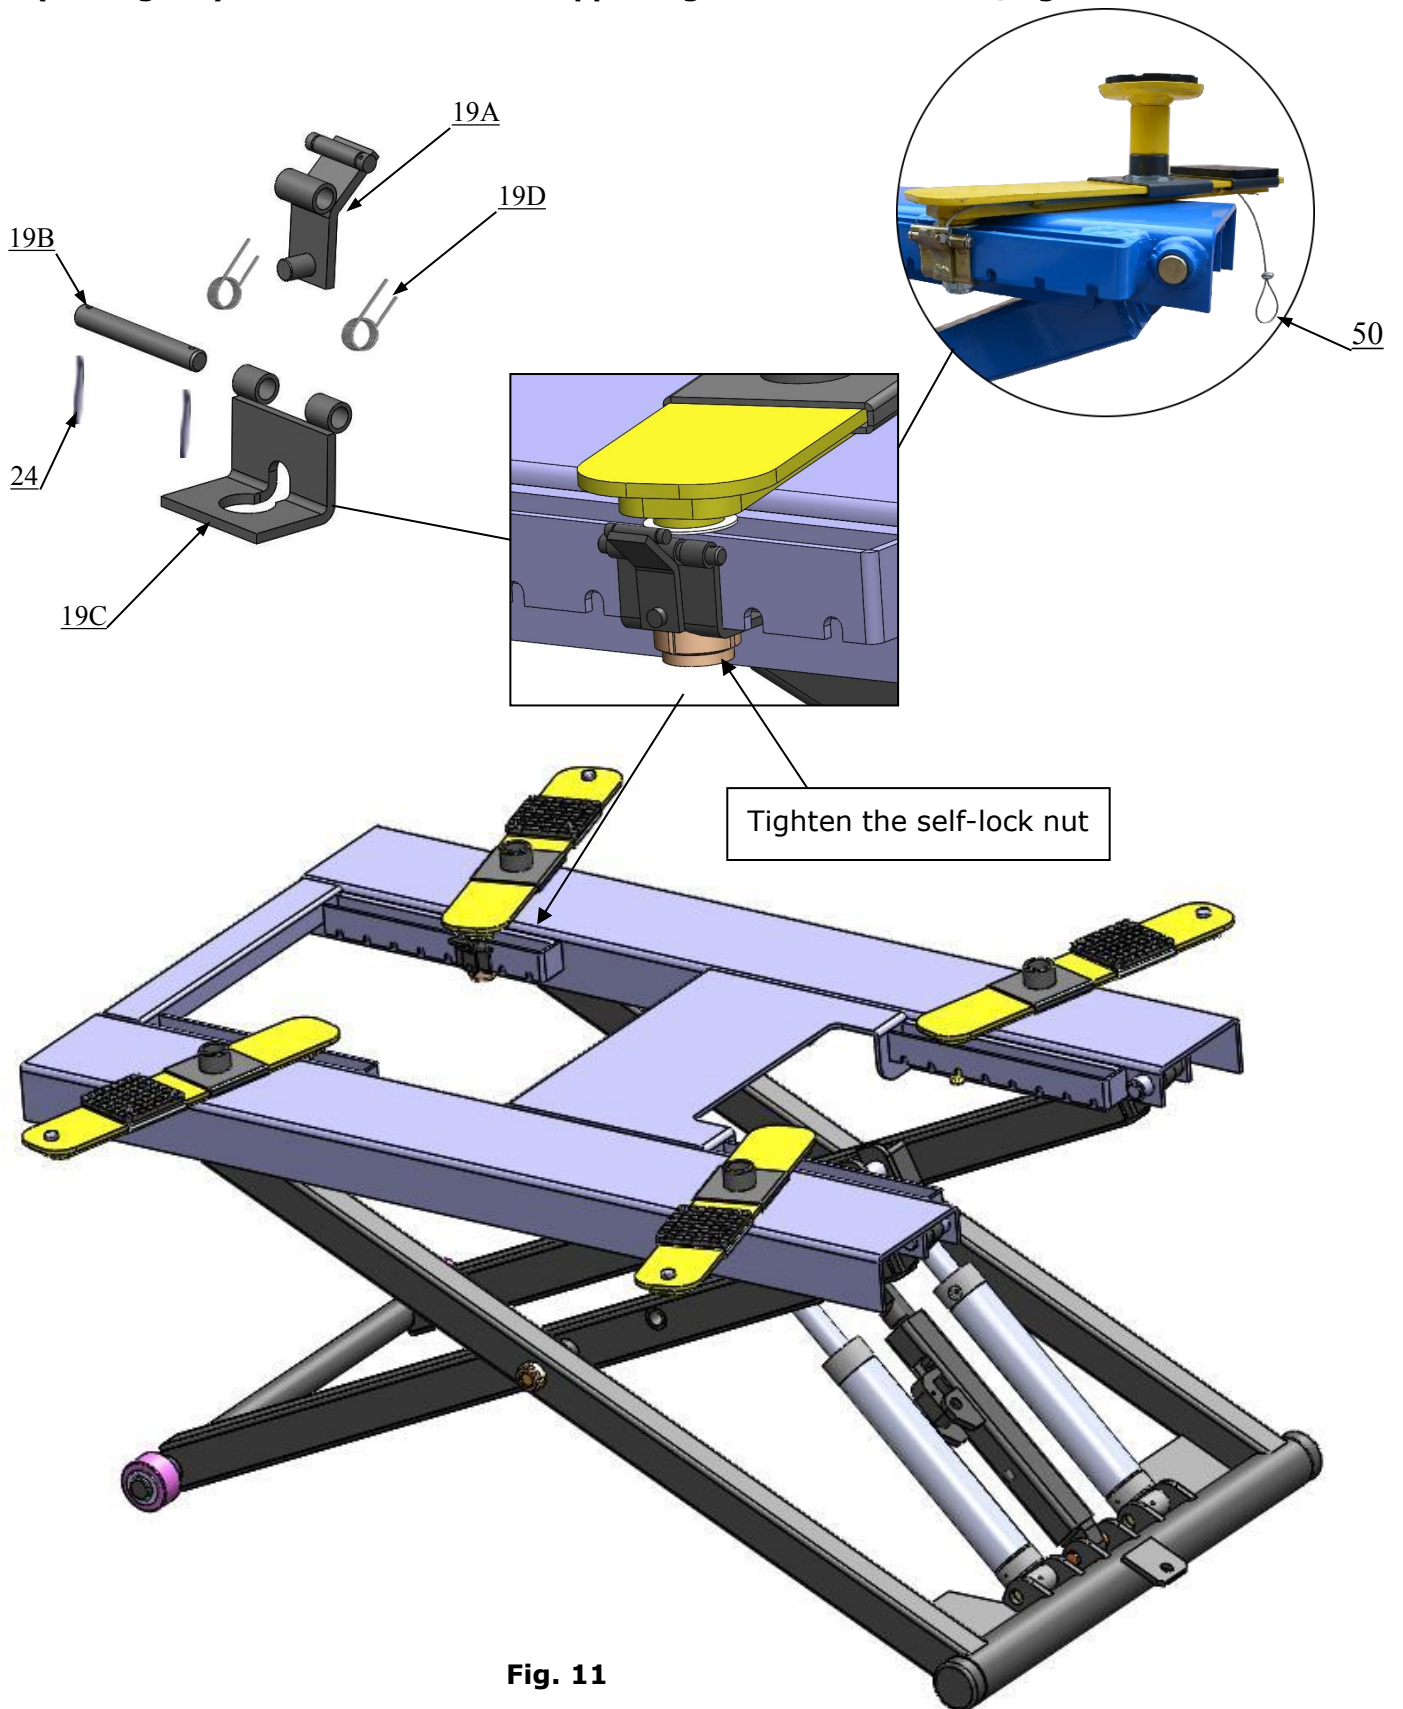

Fig. 11
1. Raise the lift up to 39 3/8" and lock the safety device, then tighten the self-lock nut. (See Fig. 11) Note: Make sure the supporting arms can move left/right